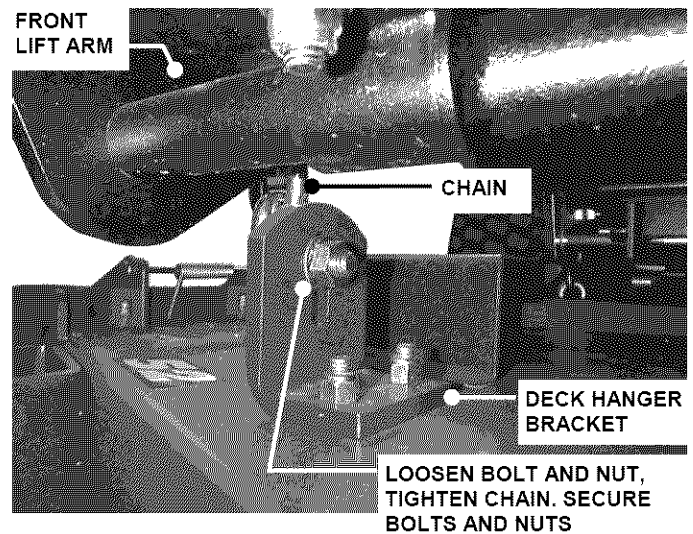

FIGURE 5.5
6. Loosen the nuts and bolts that secure both front deck support chains. Adjust chains until tight and retighten bolts and nuts. Torque to 70 ft. lbs. See Figure 5.5.